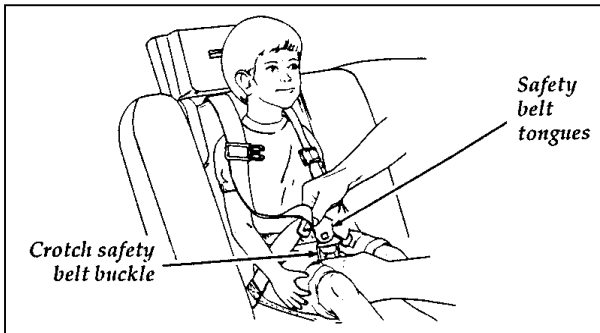

Figure 7: Fastening the crotch safety belt buckle
6. Before placing the child in the child seat, forcibly tilt the seat from side to side, and tug it forward to make sure that the seat is securely held in place. See Figure 7.
8. Insert either the left or right safety belt tongue into the single opening of the crotch belt buckle as shown in Figure 7. (It does not matter which tongue is inserted first.) Then insert the other tongue.